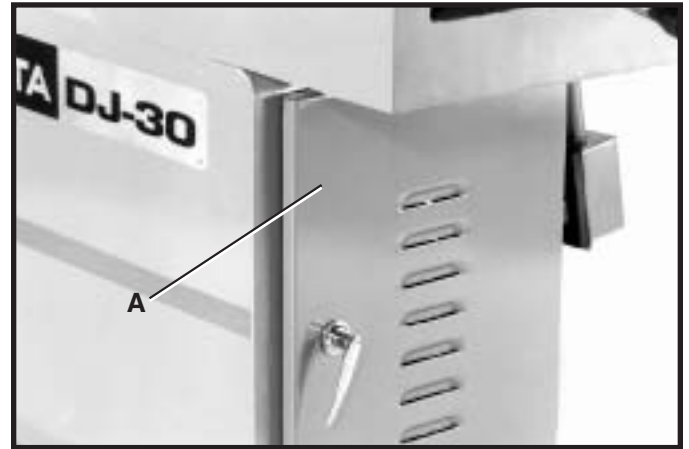

Fig. 5
1. Open door (A) Fig. 5, under infeed table and remove mounting hardware that fastens infeed end of machine to skid